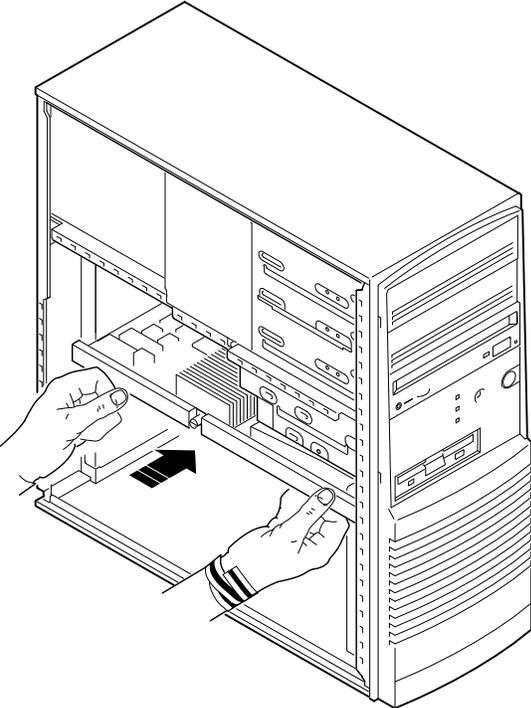

Figure 4-6. Inserting the CPU Module
8. To reinsert the CPU module, refer to Figure 4-6 and guide the fan pipe at the front edge of the CPU module into the third slot down on the fan/speaker assembly, while at the same time guiding the rear of the module through the two tabs on the pivot bracket. Ensure that you keep the module even as it slides toward the connector.
9. Before seating the module, make sure the CPU module connector is aligned properly with the motherboard connector. Refer to Figure 4-6 and apply even, firm pressure on both ends of the CPU module until it seats in the motherboard.